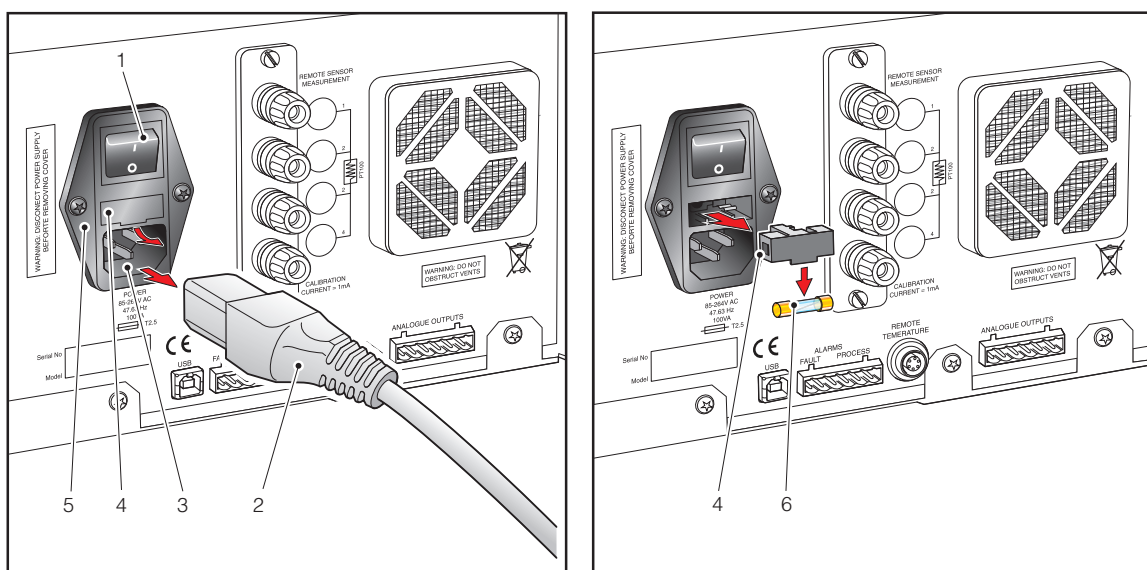

Figure 37 Power Supply Fuse Replacement
1. If the power supply cable is equipped with a fused plug, switch off the power supply, remove the plug, check and, if necessary, replace the fuse. If the instrument still fails to operate, after fitting the fuse and switching the power supply on, proceed as follows (see *Figure 37*).